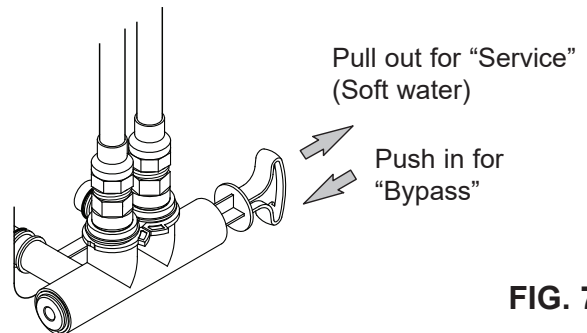
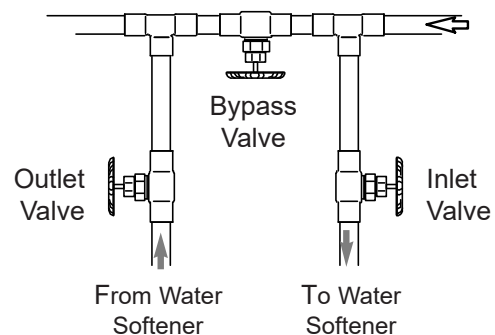

FIG. 7
FIG. 8
Always install either a single bypass valve (provided), as shown in Figure 7, or, if desired, parts for a 3 valve bypass system (not included) can be purchased and assembled, as shown in Figure 8. Bypass valves allow you to turn off water to the softener for maintenance if needed, but still have water in house pipes.
CAUTION: The house cold water pipe (metal only) is often used as a ground for the house electrical system. The 3-valve bypass type of installation, shown in Figure 8, will maintain ground continuity. If you use a plastic bypass valve at the unit, continuity is broken. To restore the ground, do the following:
3. Place bypass valve(s) in “bypass” position (see Figures 7 & 8). On a single valve, slide the stem inward to bypass. On a 3-valve bypass, close the inlet and outlet valves and open the bypass valve.